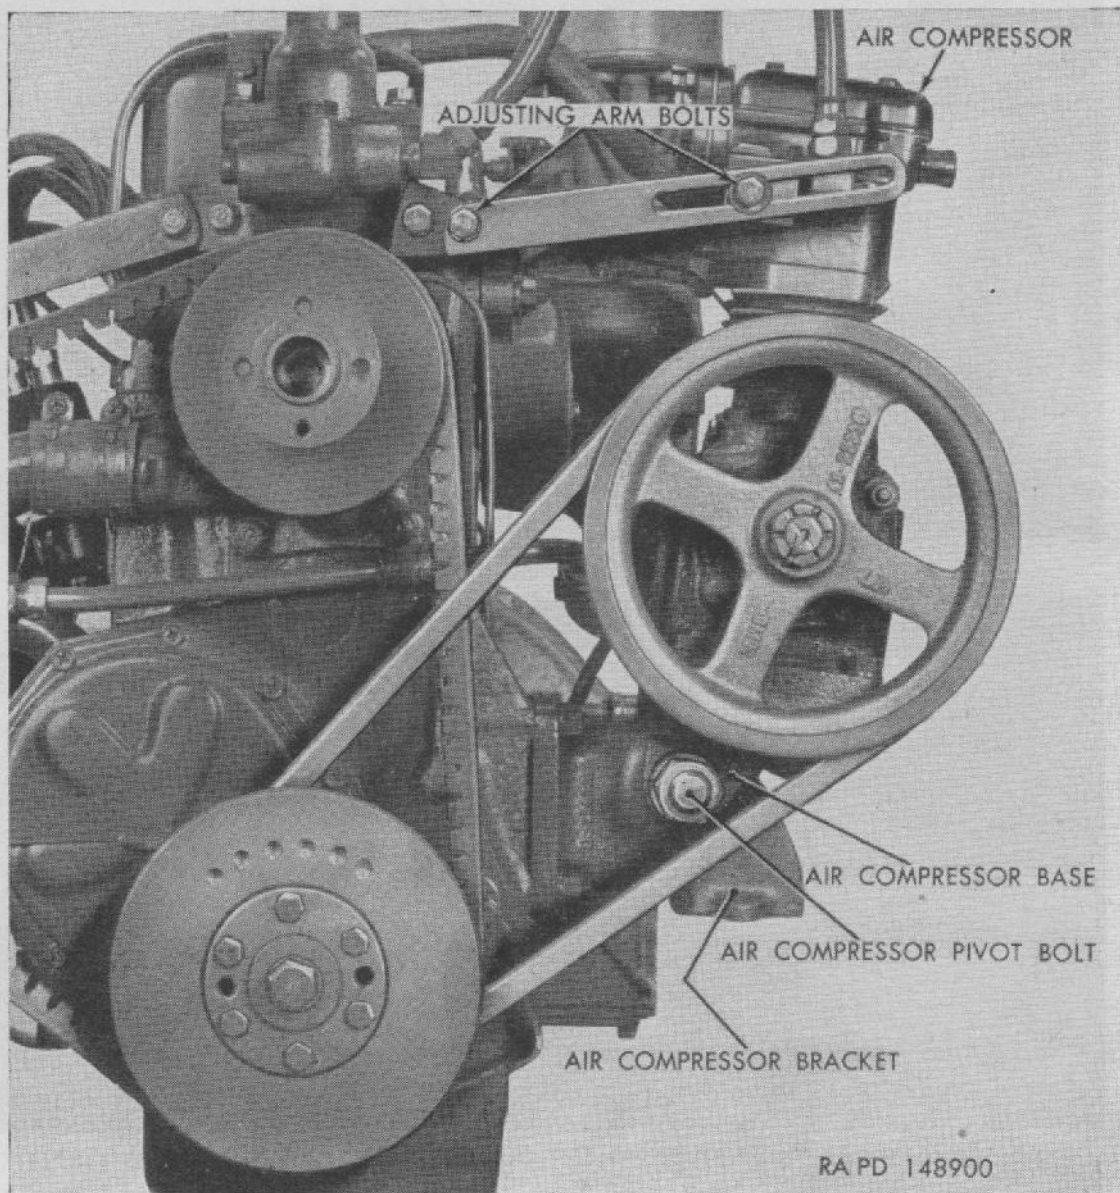

Figure 135. Air compressor drive belt adjustment points.
a. AIR COMPRESSOR DRIVE BELT ADJUSTMENT (fig. 135).
- (1) Loosen bolts attaching air compressor adjusting arm to engine thermostat housing and to bracket on compressor cylinder head.
- (2) Loosen nut on air compressor pivot bolt.
- (3) Move compressor toward or away from engine as necessary to provide correct belt tension; tension is correct when a light pressure on belt midway between pulleys will cause $\frac{1}{2}$ - to $\frac{3}{4}$ -inch deflection of belt.
- (4) When correct belt tension is obtained, hold compressor in position and tighten adjusting arm bolts and pivot bolt nut.
b. AIR COMPRESSOR DRIVE BELT REPLACEMENT (fig. 135).
- (1) Loosen air compressor adjusting arm bolts and pivot bolt nut.
- (2) Swing compressor toward engine; then remove belt from compressor pulley and from crankshaft pulley.
- (3) Position new belt in groove in crankshaft pulley and in air compressor pulley.
- (4) Adjust belt tension ((3) and (4) above).
b. AIR COMPRESSOR REMOVAL (fig. 135).
- (1) Exhaust air pressure from air system.
- (2) Disconnect oil inlet and oil return hose from compressor crankcase rear end cover and compressor base.
- (3) Disconnect water inlet and outlet hose from compressor cylinder head.
- (4) Disconnect air inlet hose and air discharge line from compressor cylinder head, and disconnect compressor governor air hose from governor end cover.
- (5) Remove bolt and lock washer attaching compressor adjusting arm to bracket on compressor cylinder head. Move compressor toward engine and remove belt from compressor pulley.
- (6) Remove nut, lock washer, and pivot bolt attaching compressor base to bracket. Lift compressor and base away from engine.
- (7) Remove four bolts and lock washers attaching compressor to base and remove base.
- (8) Remove cotter pin and nut securing pulley on compressor crankshaft; then remove pulley from crankshaft, using a suitable puller.
- (9) Remove all air, oil, and water line connectors from compressor for installation on replacement unit.
- (10) Remove compressor adjusting arm bracket from cylinder head studs for installation on replacement unit.
- c. **AIR COMPRESSOR INSTALLATION** (fig. 135).
- (1) Install air, oil, and water line connectors on compressor, coating threads of each connector with plastic-type gasket cement. Tighten connectors firmly, leaving elbows pointing in proper direction for connecting hose.
- (2) Install pulley on compressor crankshaft, making sure key is in place in keyseat in crankshaft. Secure pulley on shaft with nut and cotter pin.
- (3) Remove nuts from two cylinder head studs at front of compressor, install adjusting arm bracket on studs, and secure with lock washers and nuts.
- (4) Install mounting base on bottom of compressor and attach with four bolts and lock washers. Tighten bolts firmly.
- (5) Position compressor at engine with base over bracket, and install pivot bolt through base and bracket. Install lock washer and nut on bolt.
- (6) Attach adjusting arm to bracket on compressor cylinder head with bolt and lock washer. Do not tighten bolt at this time.
- (7) Connect oil inlet and oil return hose to compressor crankcase rear and cover and to compressor mounting base, using plastic-type gasket cement on hose connector threads.
- (8) Connect air discharge line and air inlet hose to compressor cylinder head, and connect governor air hose to governor end cover, using plastic-type gasket cement on connector threads.